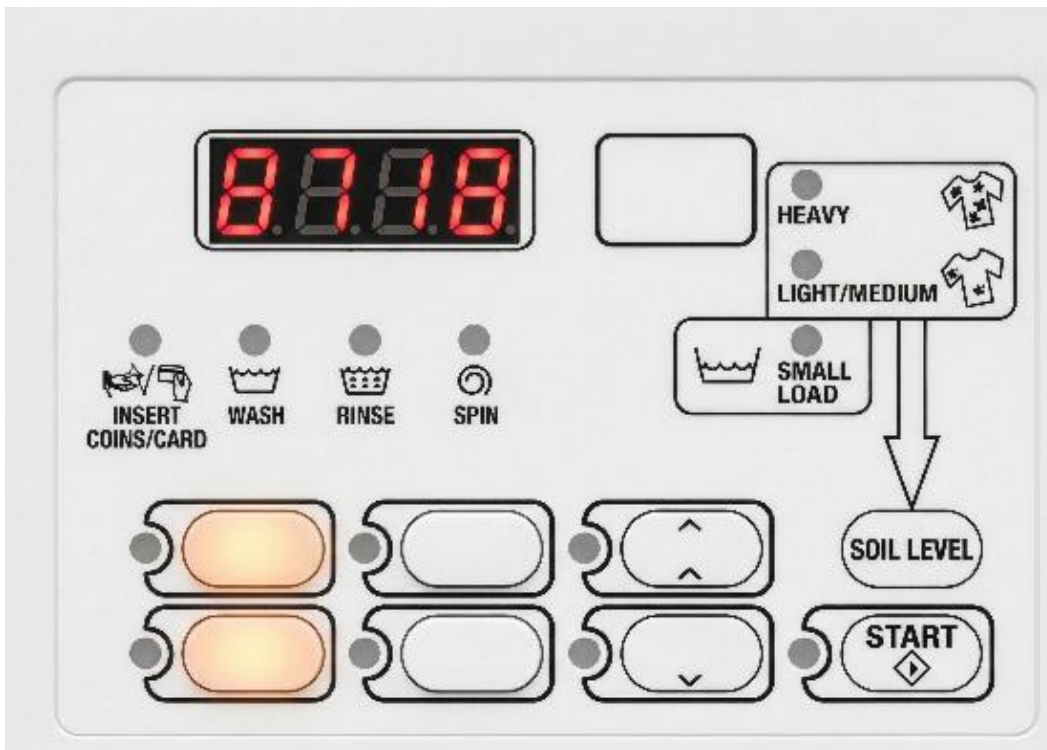

Figure 2
- Press the **top-left button** and the **button directly below it** simultaneously as highlighted in **Figure 2**.